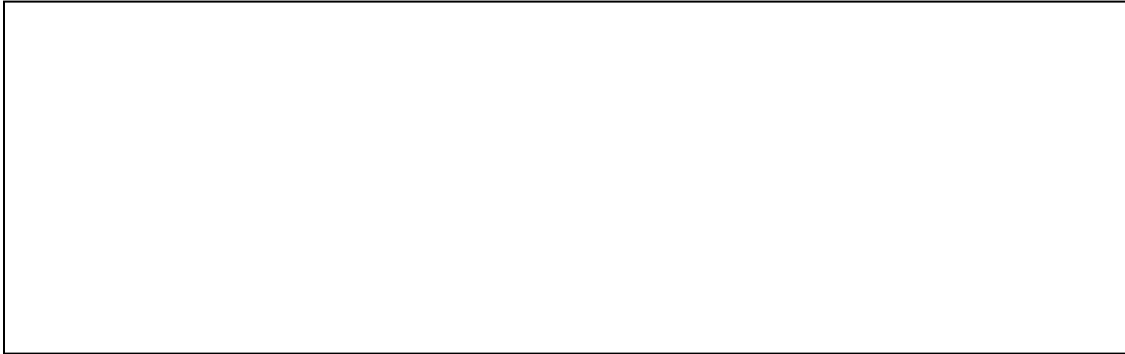

Figure 2. Injector Rail Main Fuel Supply and Purge Container
2. Refer to Figure 2. Disconnect injector rail main fuel supply line. Connect the injector rail main fuel supply line directly to the test laboratory approved fuel purge container (not provided with Golden Stand).